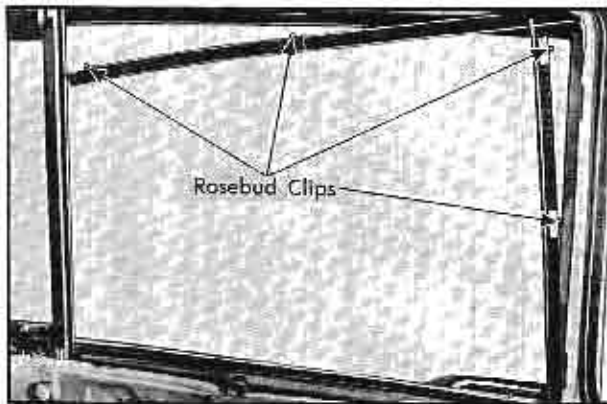

Fig. 3-41 Glass Run Channel Clips
**NOTE:** The glass run channels are secured to the door with rosebud clips, Fig. 3-41, which are snapped into holes in the window frame. In addition, the lower ends of the channels which extend along the lock pillar are secured by a nut installed to a stud support. The lower end of the channel which extends along the rear door hinge pillar is secured with a screw.